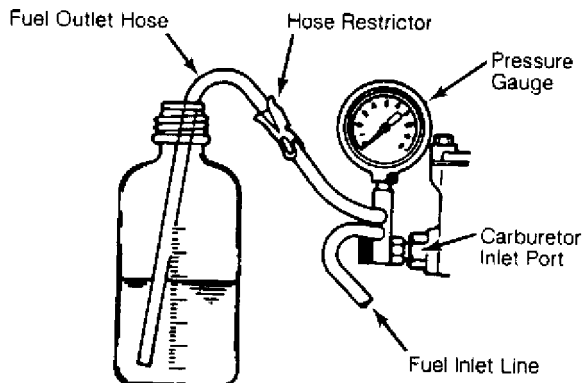
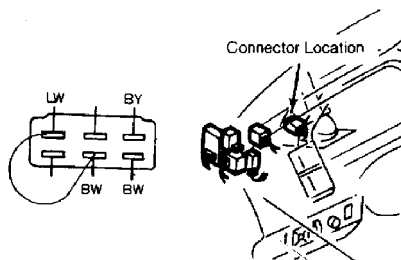

Fig. 1: Fuel Pump Pressure and Volume Test
Fig. 2: Installing Jumper Wire
1) Remove air cleaner assembly and disconnect fuel line at carburetor. Connect pressure gauge with restrictor and a flexible hose. See Fig. 1. Disconnect connector from fuel pump cut relay and connect a jumper wire. See Fig. 2.